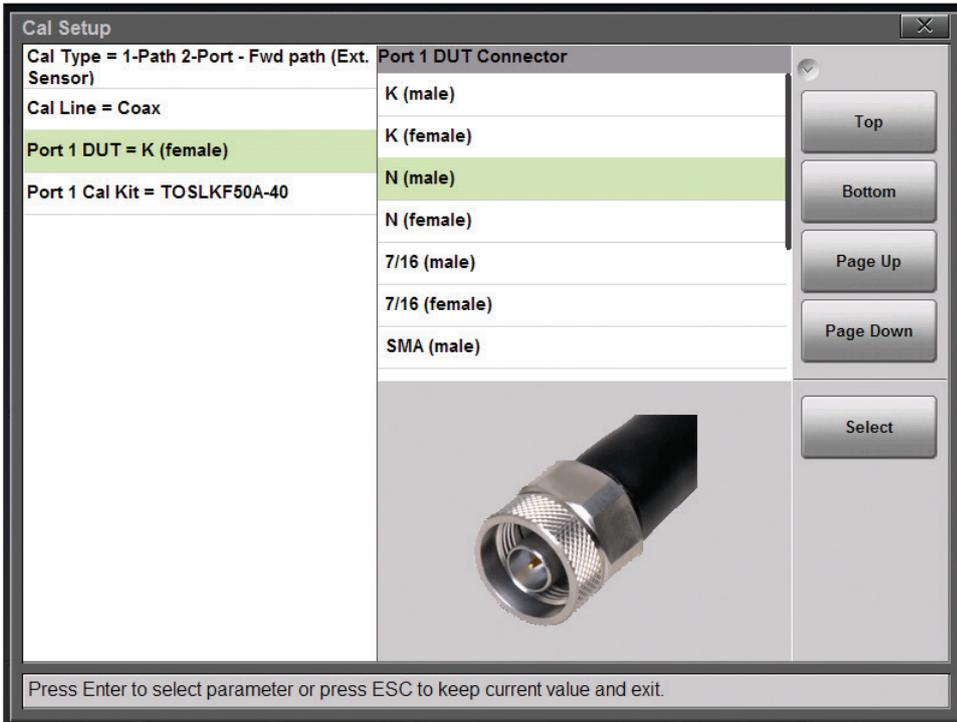

Figure 7. N (male) highlighted
- e. Scroll down to highlight Port 1 DUT = K (female), press “Edit Selection” , scroll to highlight N (male) and press “Select” . See **Figure 7**.